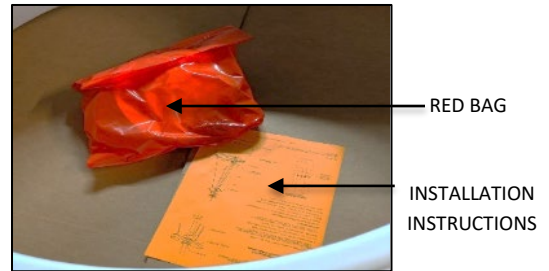

FIG.3 RED BAG AND INSTALLATION INSTRUCTIONS
2. INSTALLATION INSTRUCTIONS (shown in FIG. 3) - Please completely read the install instructions before starting installation.
5. RED BAG (shown in FIG. 3) contains below following items.